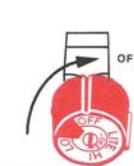

Fig. 4
1. Ensure control knob is in "OFF" position (Fig. 4) and filler cap is firmly closed.